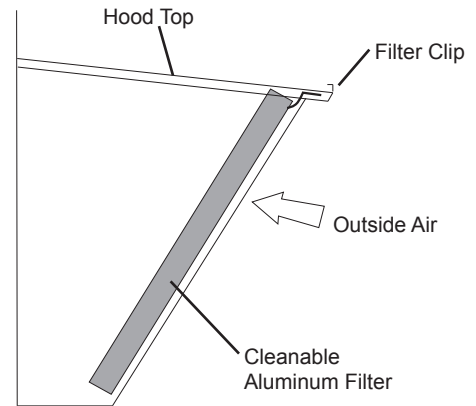

Fig. 5 - Filter Installation
13. Open the filter clips on the inside of the hood top. Insert the aluminum filter into the hood and close the clips to hold in place. See Fig. 5.